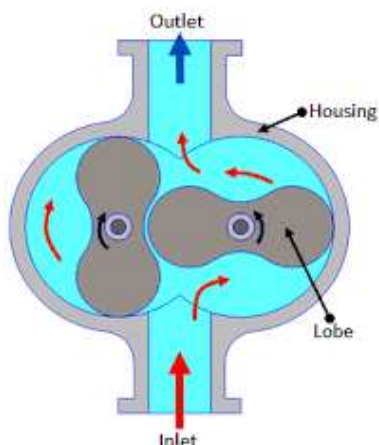

Fig.4.7 Lobe Type Compressors
- ▶ The lobe type compressor shown in Fig.4.7. They are extensively used in applications such as pneumatic conveying, aeration applications, cement plants and water treatment plants.